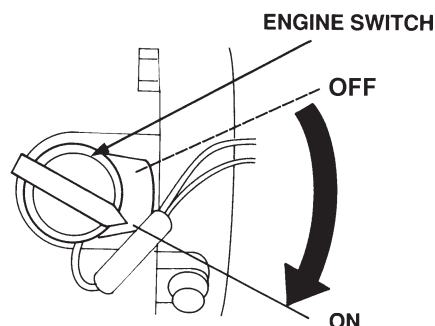

Figure 10. Engine ON/OFF Switch
4. Turn the engine switch (Figure 10) to the ON position.